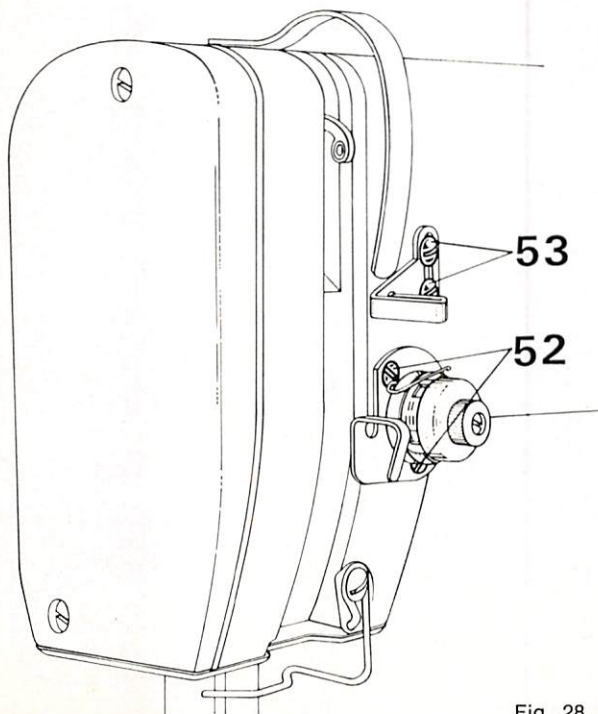

Fig. 28
26. Adjusting the Thread Check Spring and the Slack Thread Regulator (Fig. 28)